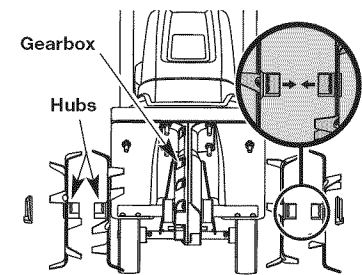

Fig. 10
6. Slide on the new tines, with the hubs facing in towards each other. Make sure that the rotation arrows are facing the gearbox when installing the tines on the left tine shaft and away from the gearbox for the right tine shaft (Fig. 10).